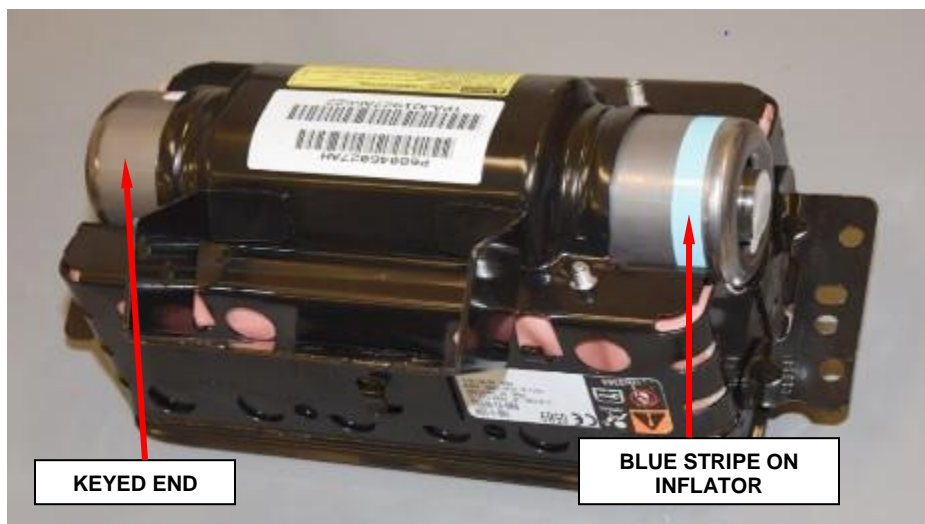

Figure 84 – Insert Inflator (Shown with Cushion Installed)
- h. Slide **new** inflator into housing. The keyed end is inserted first, therefore the blue stripe on the inflator will be located at the open end, as shown (Figure 84).